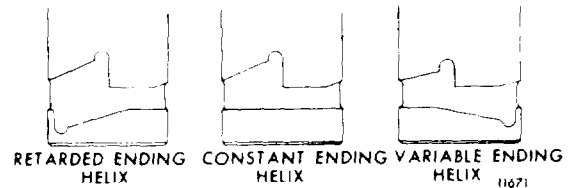

Figure 11C-77. Types of Injector Plungers
**REFINISHING INJECTOR FOLLOWER FACE.** When refinishing the face of an injector follower, it is extremely important that the distance between the follower face and the plunger slot is not less than 1.645" minimum as shown in Figure 11C-78 on page 11C-49. If this distance is less than specified, the height of the injector follower in relation to the injector body will be altered and proper injector timing cannot be realized.